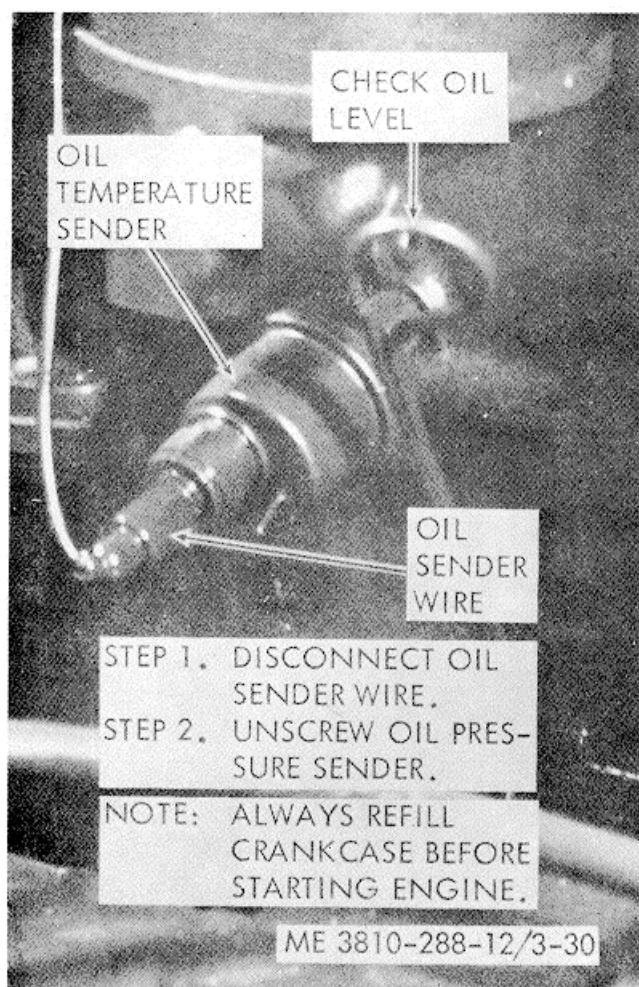

Figure 3-30. Oil temperature sender, removal and replacement.
e. Oil Temperature Sender. Refer to figure 3-30 and remove and replace a faulty oil temperature sender.